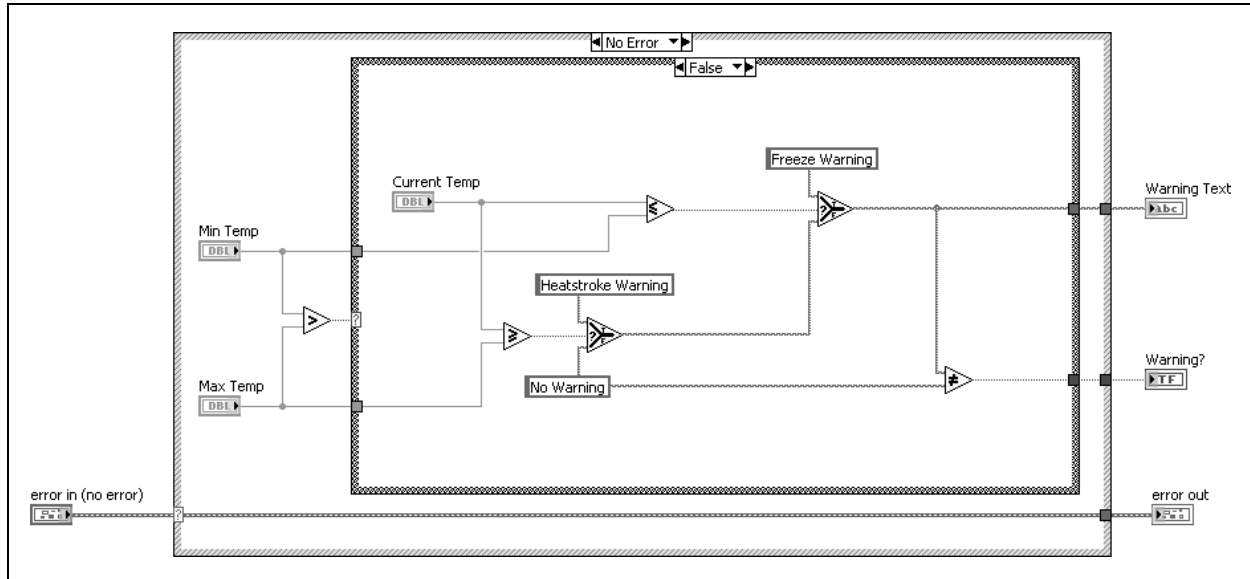

Figure 7-9. No Error Case of Determine Warnings VI
- Surround the block diagram code with a Case structure as shown in Figure 7-9. Leave the Warning Text and Warning? indicators outside of the Case structure.
- Wire the error cluster through the Case structure to the **error out** terminal as shown in Figure 7-9.